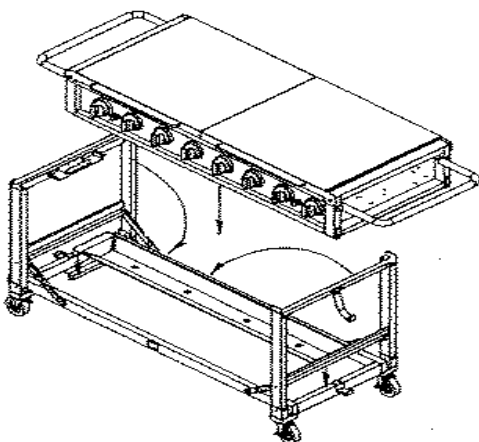

Fig.1
2. Remove LP Gas tank, Grease Receptacle and Grease Tray from your grill. Place Grease Receptacle on Lower Grease Tray Bracket. See Fig.1.
4. Loose the bolt #3 and let the 4 cart frame bracket rest on the cart. In order to avoid loosing the 4 pieces bolt, make sure that they are screwed on the folding legs again . Then fold the Cart Legs onto Cart Frame. See Fig.1.